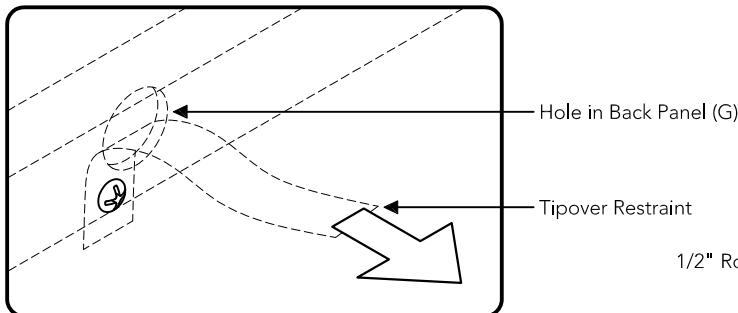

Figure 6
Move unit back into place and insert Tipover Restraint into hole in Back Panel (G). (See Figure 6)